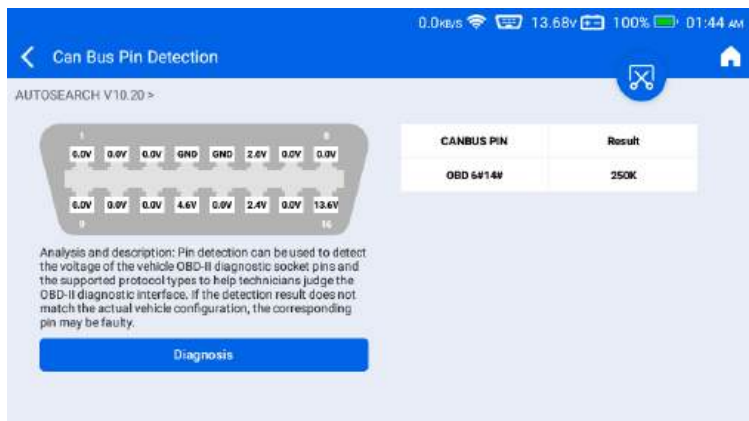

Figure 4-13
- **Result Table:** The result table shows the detected communication pins and the corresponding baud rate. Using Figure 4-13 as an example, the tool identifies Pins 6 and 14 as a CAN bus operating at 250 Kbps, indicating a proper communication link between the diagnostic device and the vehicle.